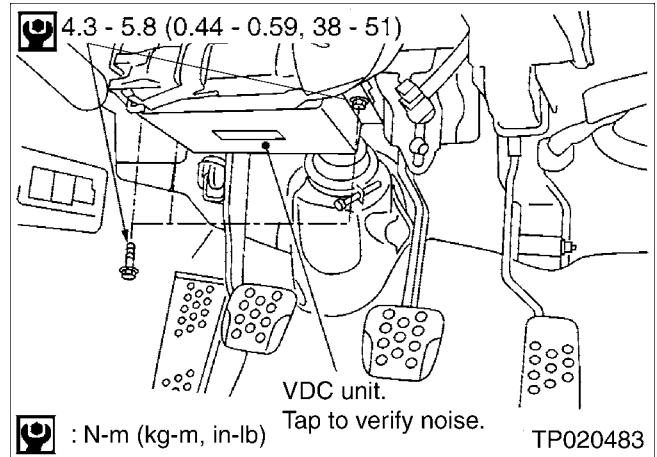

Figure 4
2. Tap the VDC unit to verify if noise occurs (see Figure 4).
3. Examine the VDC unit bolts for looseness (see Figure 4).
4. Tighten the bolts to 4.3 - 5.8 N-m (0.44 – 0.59 kg-m, 38 - 51 in-lb). See Figure 4